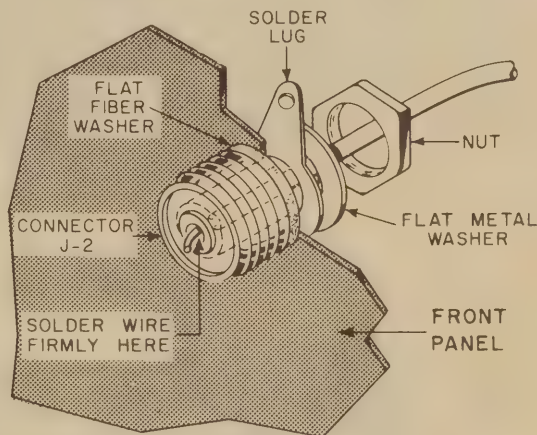

FIGURE 4. HOW TO MOUNT THE CHASSIS CONNECTOR
- (✓) Mount J-2, the chassis connector in the large hole in the lower center of the panel. This connector is supplied with a shouldered fiber washer. Take this washer off and throw it away. Place the flat fiber washer over the small threaded end of the connector. Scrape the paint from around this hole on the rear of the panel. Insert the small threaded end through the hole in the panel. Place the solder lug and the flat metal washer on the connector and tighten the nut securely. See Figure 4.